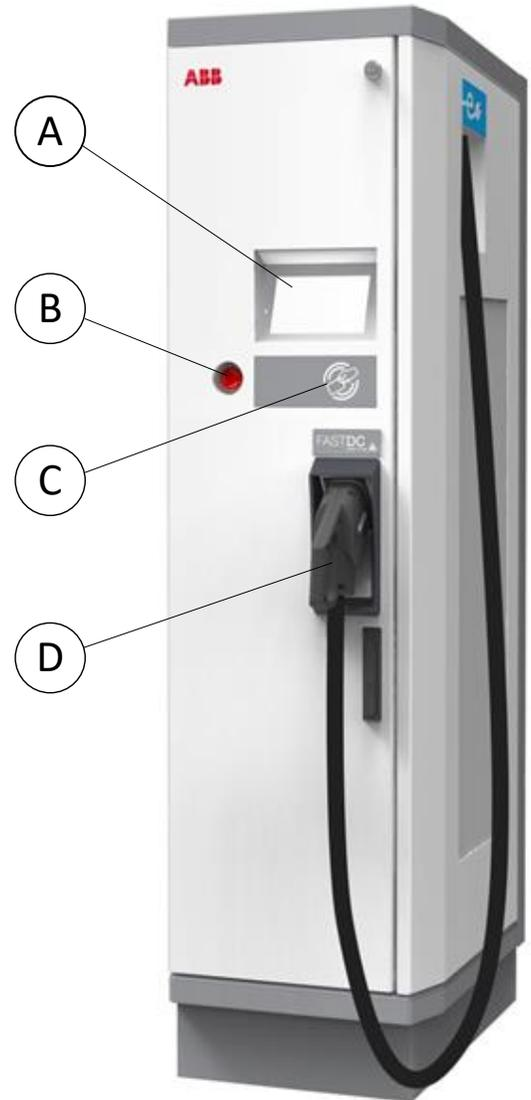

Figure 1 Charger view
The user operated components are indicated on Figure 1.
1. Push the emergency stop button (B in Figure 1).